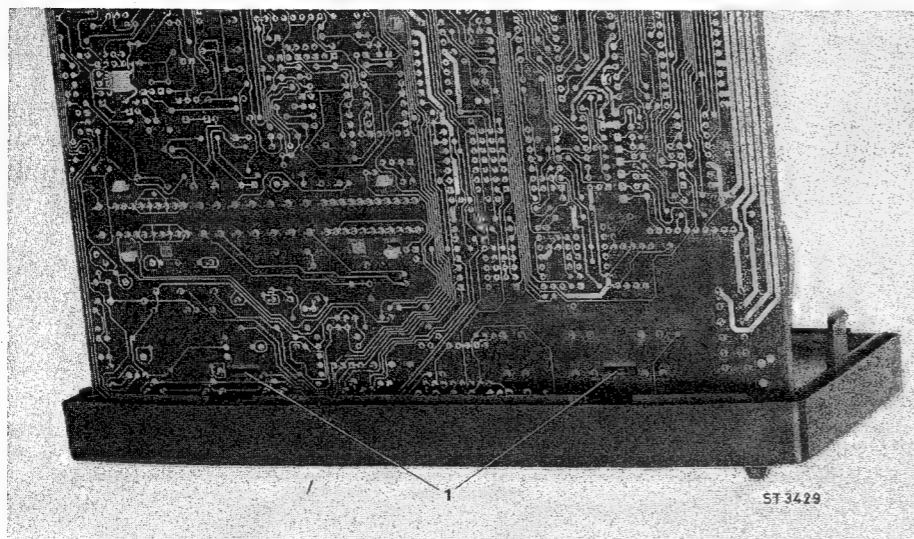

Fig. 43. Removing the front
- Bend out the two hooks of the front plate at the bottom of the printed-circuit board. (fig. 43 item 1).